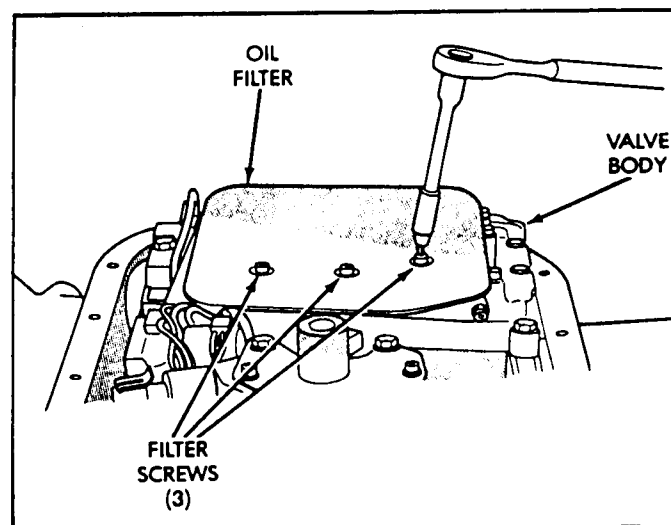

Figure 8
15. Remove the oil filter from valve body, as shown in Figure 8.